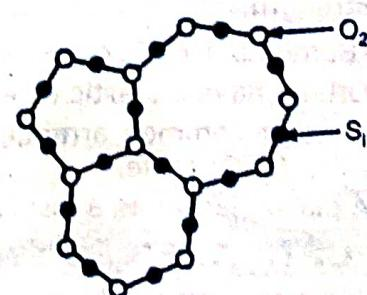

Fig. 1.3
- When a liquid is cooled down very rapidly, then at temperature below the freezing temperature, the liquid gets solidify in glassy or non-crystalline state as shown in Fig. 1.3.